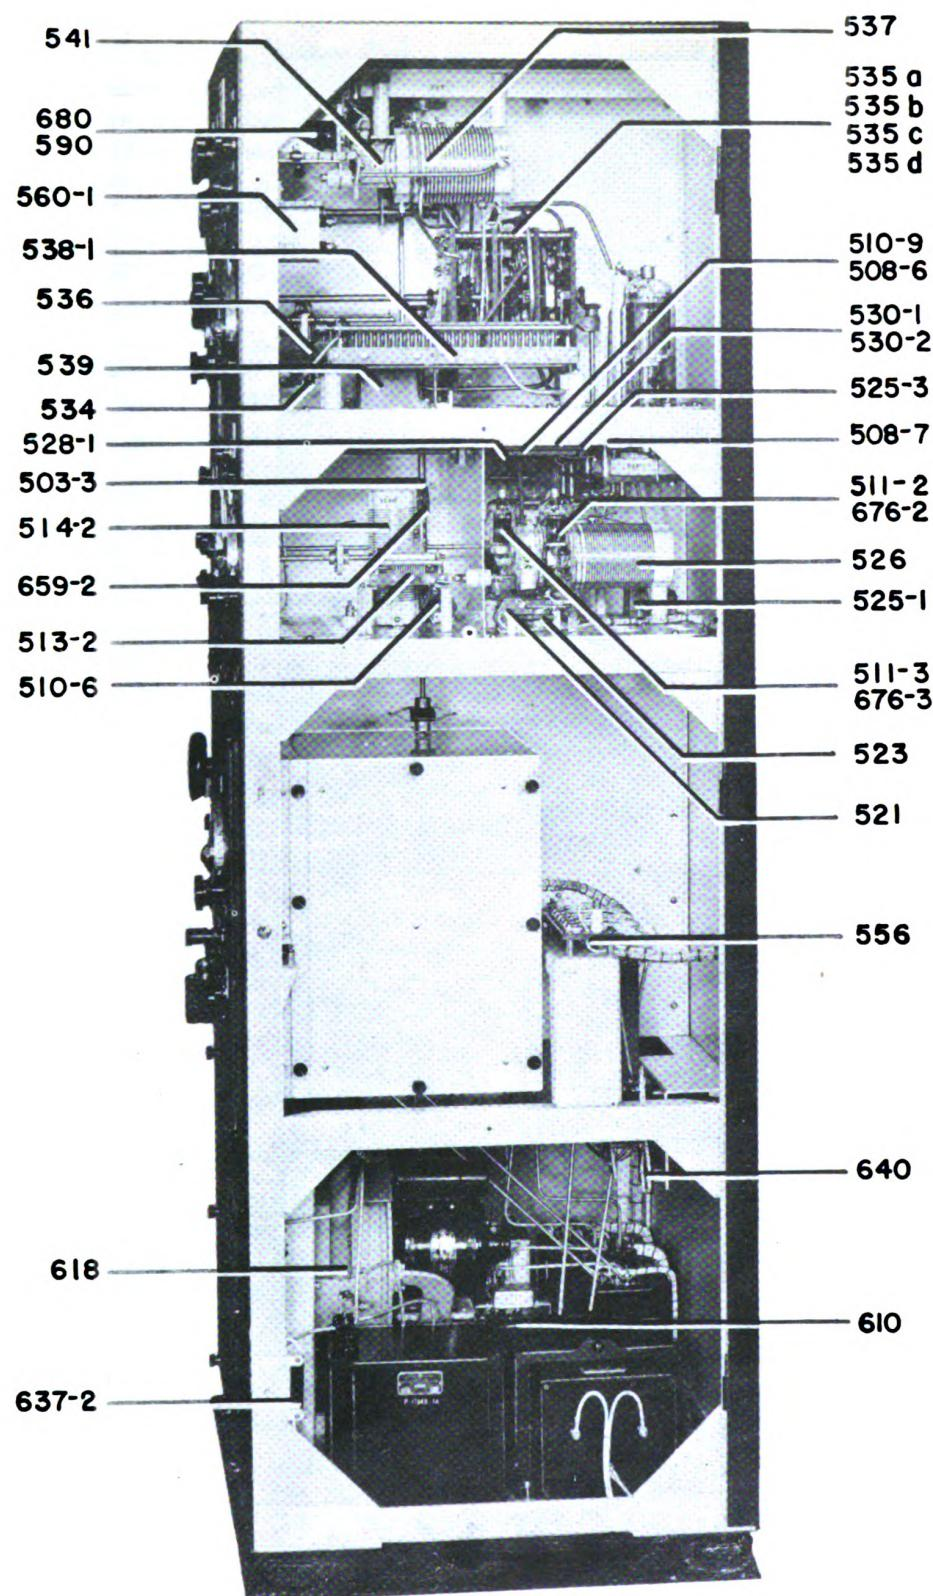

FIG. 13 RADIO TRANSMITTER BC-325-B, RIGHT SIDE INTERIOR VIEW
(2) The oscillator compartment shown in Fig. 13 is thermally insulated and temperature controlled to approximately 63°C. by heater elements 593-1, 593-2, 594-1 and 594-2 and thermostats 592-1 and 592-2. These heaters operate from 110 volts a.c. which is supplied from the terminal board 556 through the cable at the rear of the oscillator compartment. Heaters 593-1 and 593-2 have a combined capacity of 175 watts and are controlled by thermostat 592-2 which regulates at a temperature of approximately 63°C., while heaters 594-1 and 594-2 have a combined capacity of 700 watts and are controlled by thermostat 592-1 to regulate at approximately 45°C. The purpose of the latter two heaters is to rapidly heat the oscillator box. Because their controlling thermostat regulates at a temperature of approximately 45°C., these heaters do not operate when the box is at the required temperature of 63°C., the smaller heat capacity heaters with their thermostats regulating the compartment temperature at the latter value. A thermometer 595, the scale of which is located on the oscillator panel, gives visual indication of the internal box temperature. All crystal